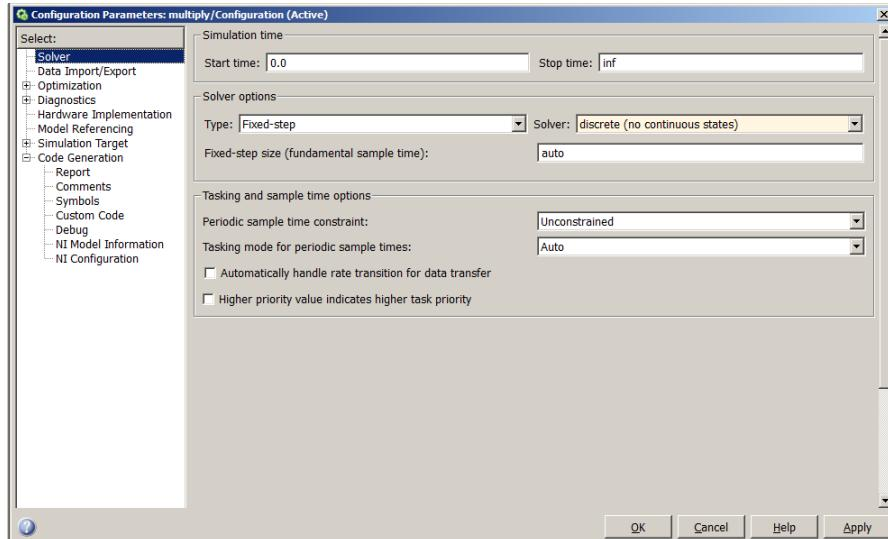

Figure 9: Simulink model configuration - solver
2. Configure solver as in Figure 9.